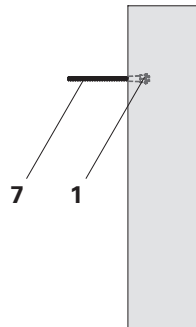

Fig. A2.02
- Screw the Tie Rod B 15, L = 0.30 m (**7**) into the Stopend Sleeve DW 15 (**1**). (Fig. A2.02)